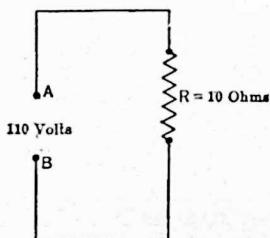

FIG. 24. A coil of 10 ohms across a 110-volt circuit.
**15. Series Circuit. Resistance.** In Fig. 24, a resistance coil  $R$  of 10 ohms is connected across the terminals of a 110-volt line. By Ohm's Law the current must equal